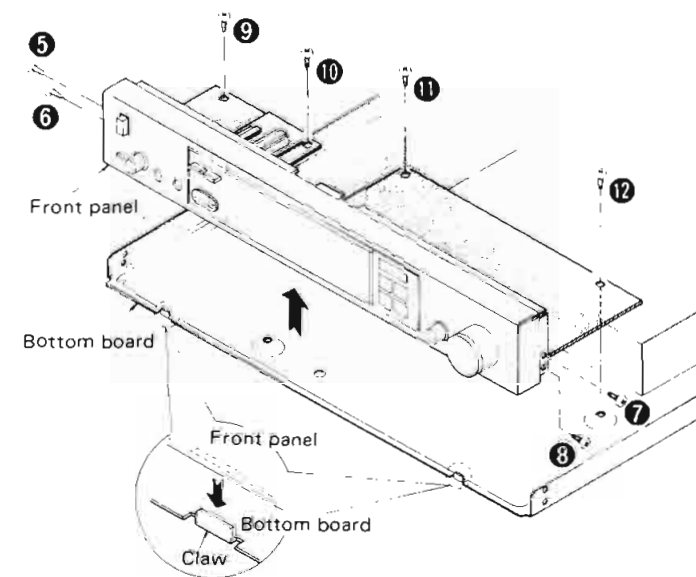

Fig. 2
- Remove the 4 setscrews (red) (Fig. 2 : ⑤ ~ ⑧) of the front panel and the 4 setscrews (Fig. 2 : ⑨ ~ ⑫) of the P.C.B.
- When fitting the front panel, match the claws of bottom board with the holes in the front panel. (See Fig. 2.)